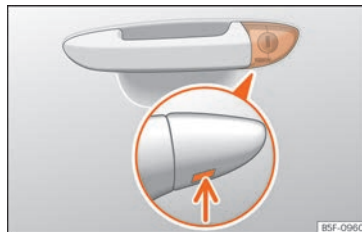

Fig. 6 Driver door lever: hidden lock cylinder.
- Insert the key shaft into the lower opening in the cover on the driver door handle »»» **Fig. 6** (arrow) then remove the cover upwards.